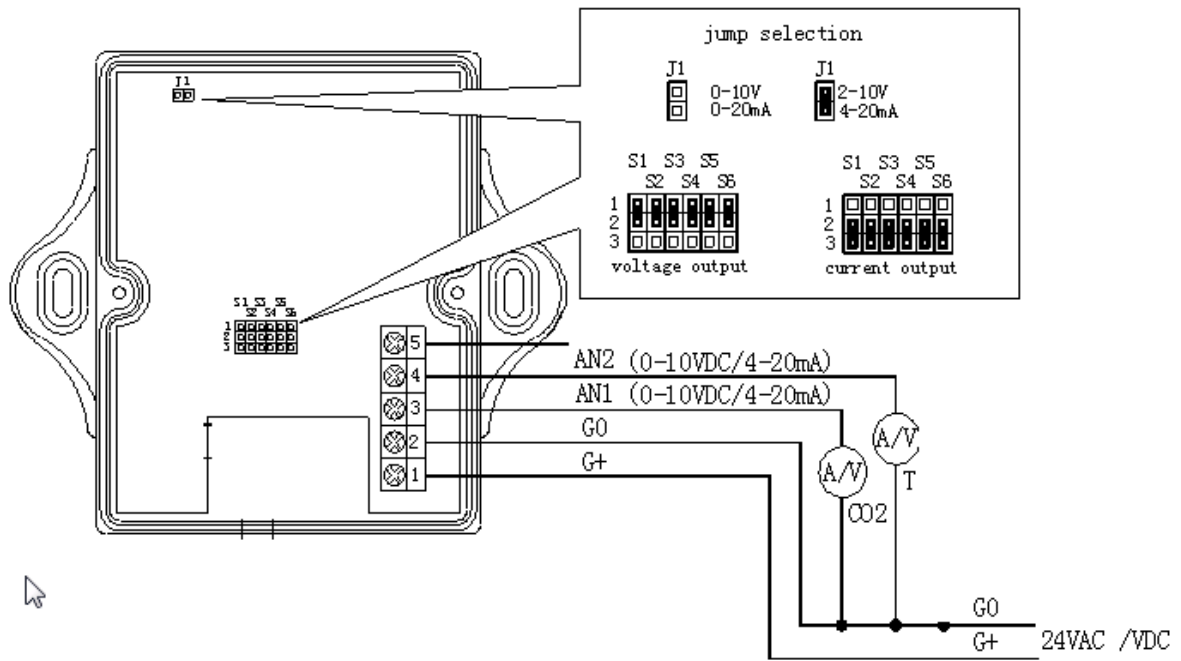

Fig.3
- ◆ Connect wires to terminal strips (see fig.3). Make sure wiring connection correct and secure.